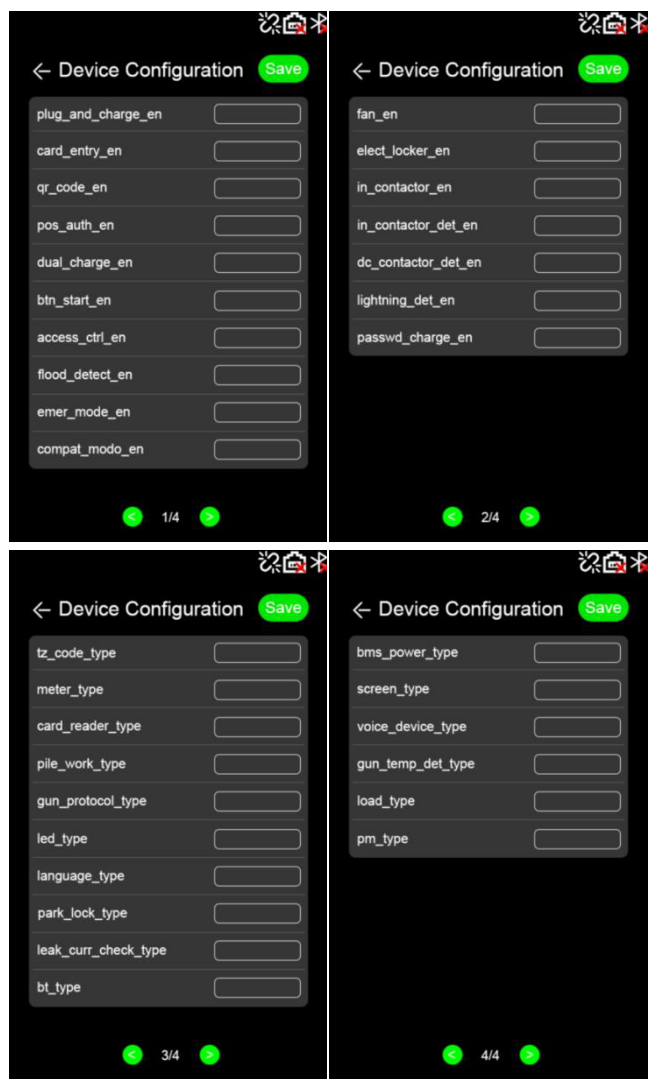

Fig. 6-7 Display of Device Setting
- (1) factory_number :chargePointVendor ,Different manufacturers can change the name
- (2) sys_passwd : System password
- (3) charge_passwd:charge password
- (4) gun_availability: Set this parameter to 1 if you want to maintain the device when it is not in use
- (5) max_output_curr : charger limit current
- (6) Soc stop : Enter 80 if you want to stop charging at soc 80
- (7) in_contactor_off_delay :
- (8) settle_info_delay
- (9) fan_off_delay : You can set the delay stop fan time
- Device Configuration Parameter setting operation, the picture is shown in Fig. 6-7.